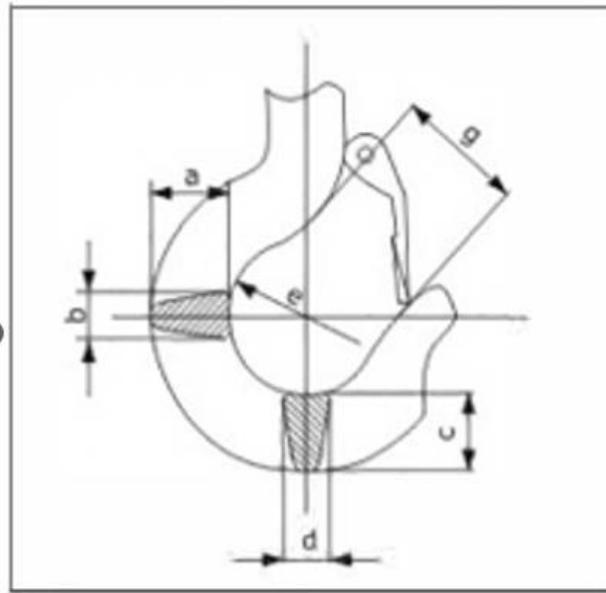

Figure 6.2
12.3.3 Inspect hoist hook assembly checking for any cracks or distortion of the hook body and/or excessive wear. If the measured dimensions are 5% or more out of specification the hook assembly needs replaced. See figure 6.2 and table 12.3.2.1 for specifications.